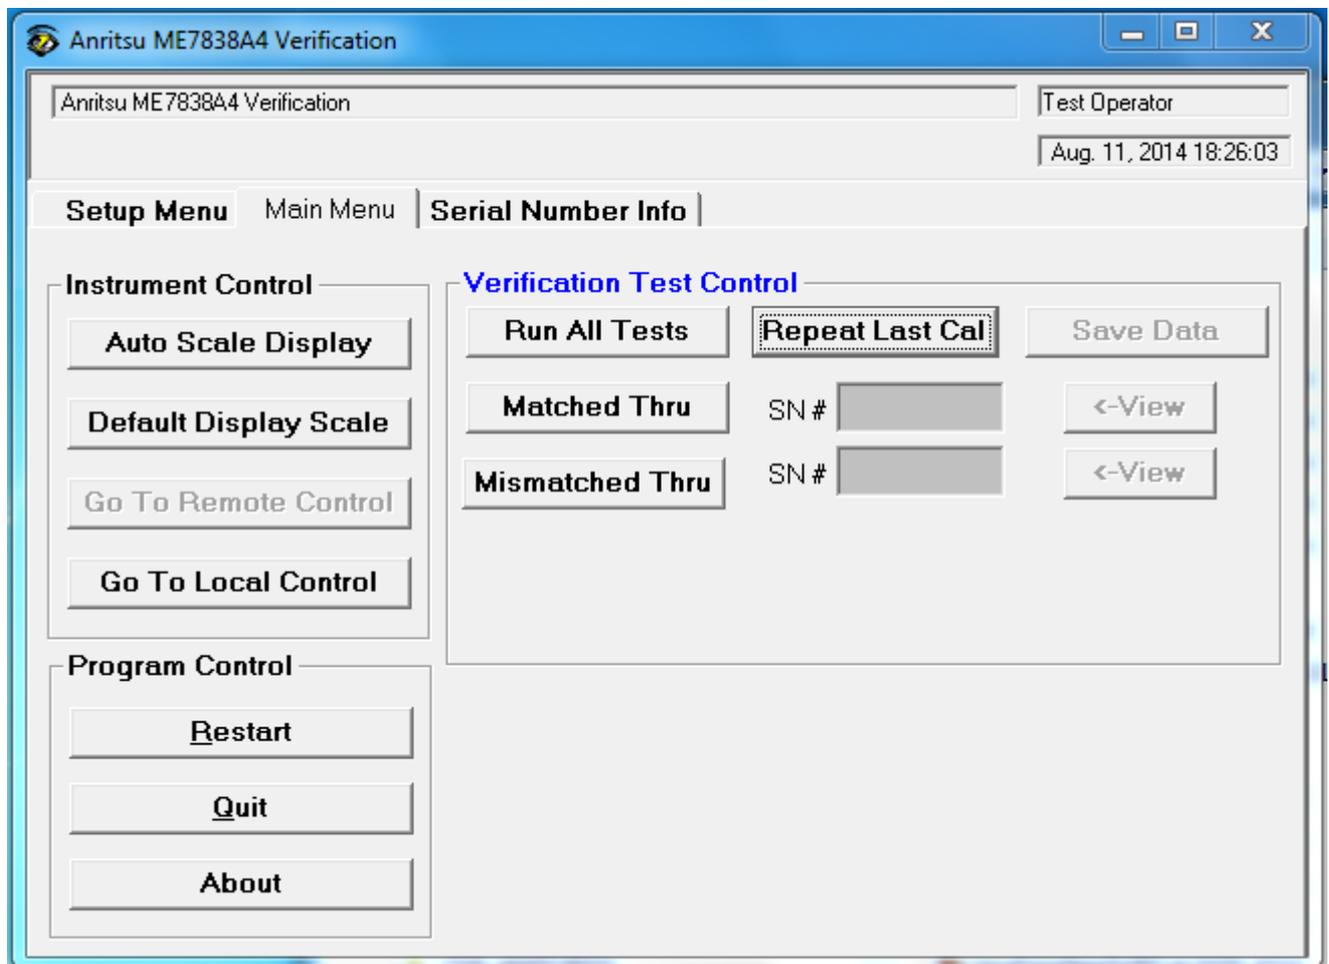

Figure 4-43. ME7838A4 Application Interface – Main Menu Tab
- The Main Menu tab display is described in the section immediately following and is shown in Figure 4-43
This command button runs both the Matched Thru and Mismatched Thru tests. Program execution starts with Section 4-11 “Matched Thru Tests” on page 4-32 and then continues with Section 4-12 “Mismatched Thru Tests” on page 4-34. When both tests are completed, program execution returns to the Main Menu tab shown in Figure 4-43 on page 4-27.
This command button re-calibrates the VNA according to the CURRENT calibration. This provides a way to recalibrate the VNA without having to reset the program parameters in case the original calibration was flawed for some reason. When the calibration sequence is complete, program execution continues to the Main Menu tab shown previously in Figure 4-43 on page 4-27.
9. If only the Matched Thru button was selected, the program returns to the “Application Interface – Main Menu Tab” on page 4-27. The dialog box is shown in Figure 4-43, “ME7838A4 Application Interface – Main Menu Tab” on page 4-27.
The dialog box is shown in Figure 4-43, “ME7838A4 Application Interface – Main Menu Tab” on page 4-27.